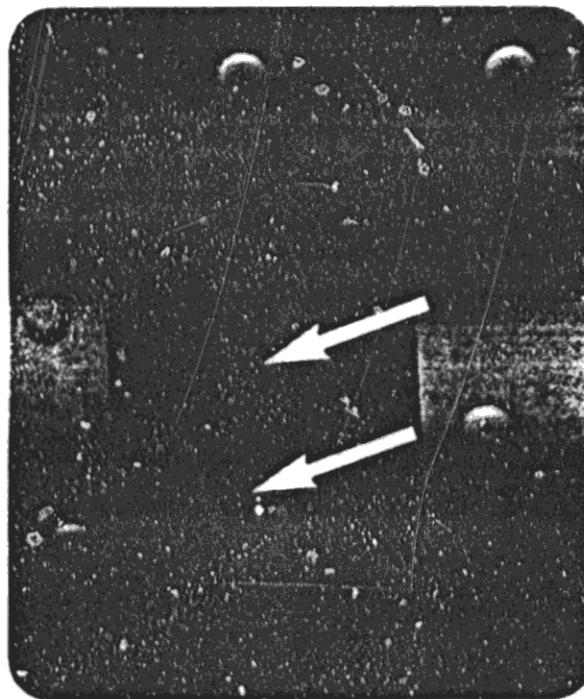
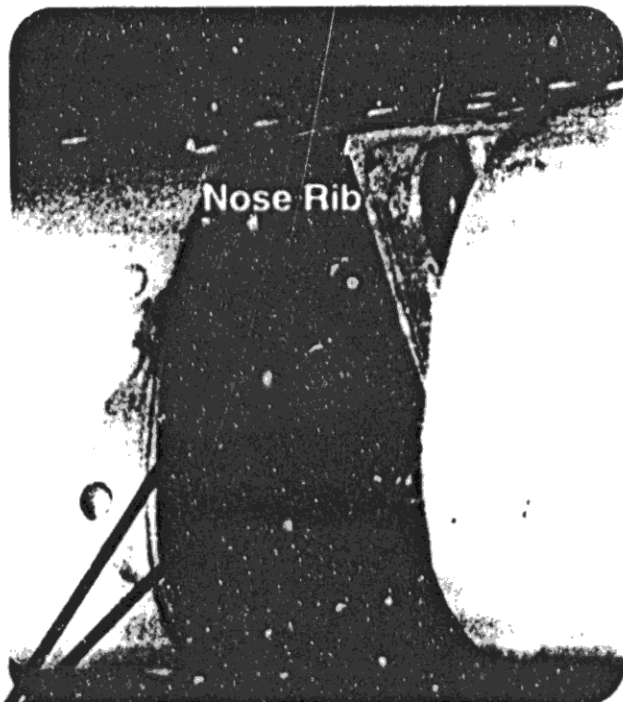

FIG. 2
FIG. 4
1. Inspect the left and right ailerons at the inboard hinge attachment. Referring to Sketch "A", Fig. 1 and Fig. 2 determine if the hinge utilizes a nut and bolt combination or a bolt and nutplate combination to attach the hinge. *Inspections may take place while the aileron is installed.*
3. If the hinge attachment shows a bolt head holding the hinge fitting on, look just forward of the hinge fitting for countersunk rivets indicating a nutplate installation (remove paint if necessary). (Refer to Fig. 4) If nutplates are not installed, no further action is required, proceed to instruction 12. (See Fig 2.)